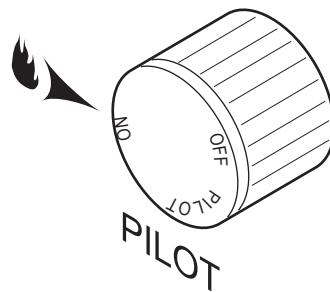

Figure 49 -
Depress and turn the knob counterclockwise ↪ to the “ON” position. *Figure 49*. It will take less than four (4) seconds for the burner to ignite.